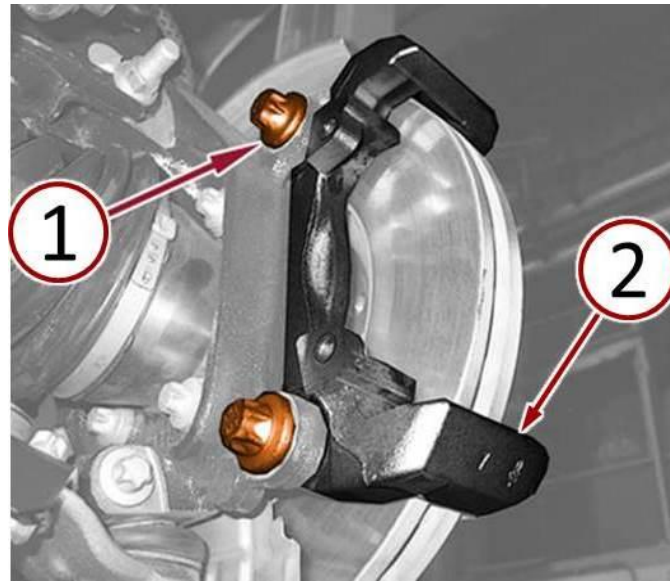

Fig. 4 Remove Brake Caliper Adaptor Bracket
9. Remove the brake caliper adaptor to front steering knuckle bolts (1) (Fig. 4).
10. Remove the brake caliper adaptor bracket (2) (Fig. 4).